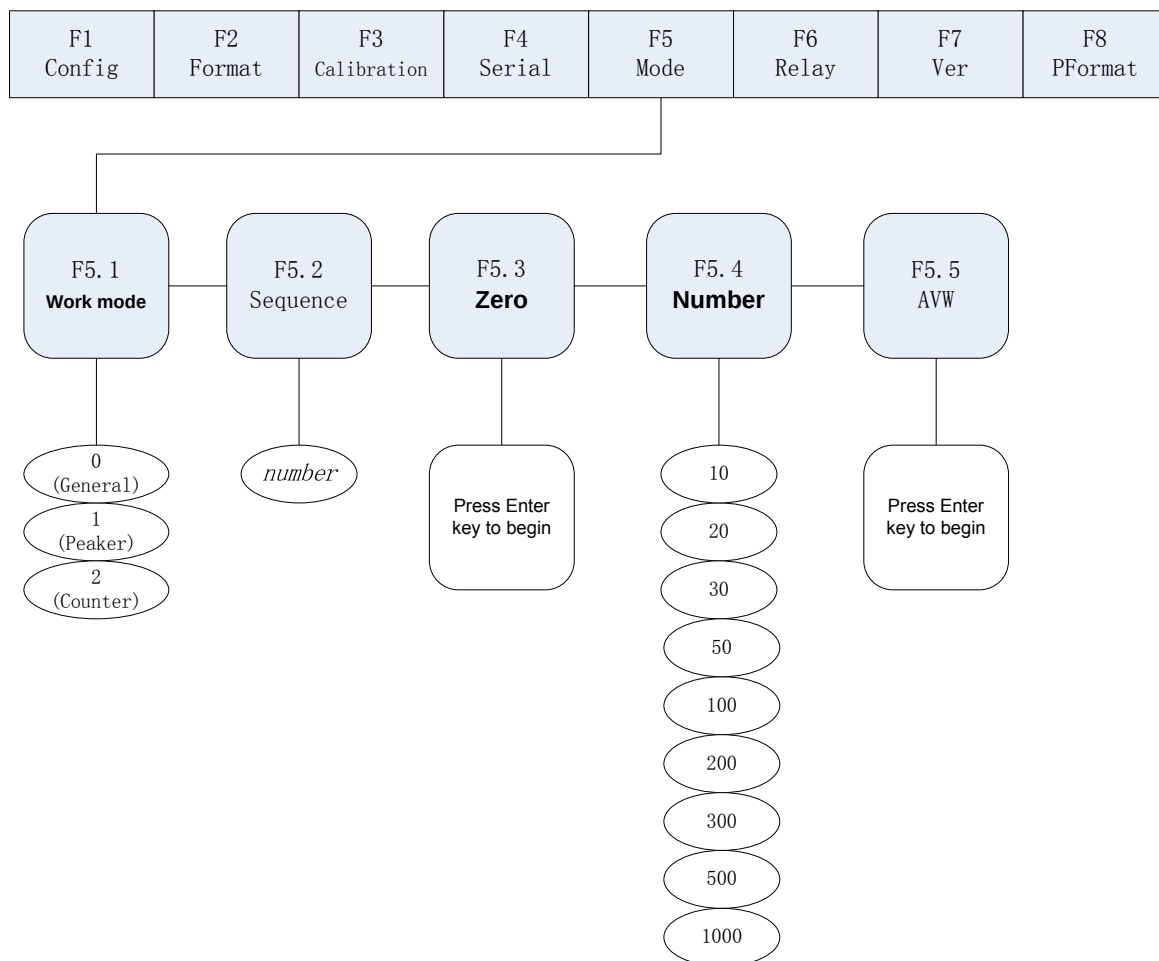

Fig. 5-1 Count Items Average Weight Setup Menu
- (1) Set indicator to the Configuration mode (display shows “F1”).
- (2) Press until display shows “F5.1” (see Fig 5-1). Press to go to Count Items Average Weight setup menu and display shows “F5.1”. Press to show “F5.2”.